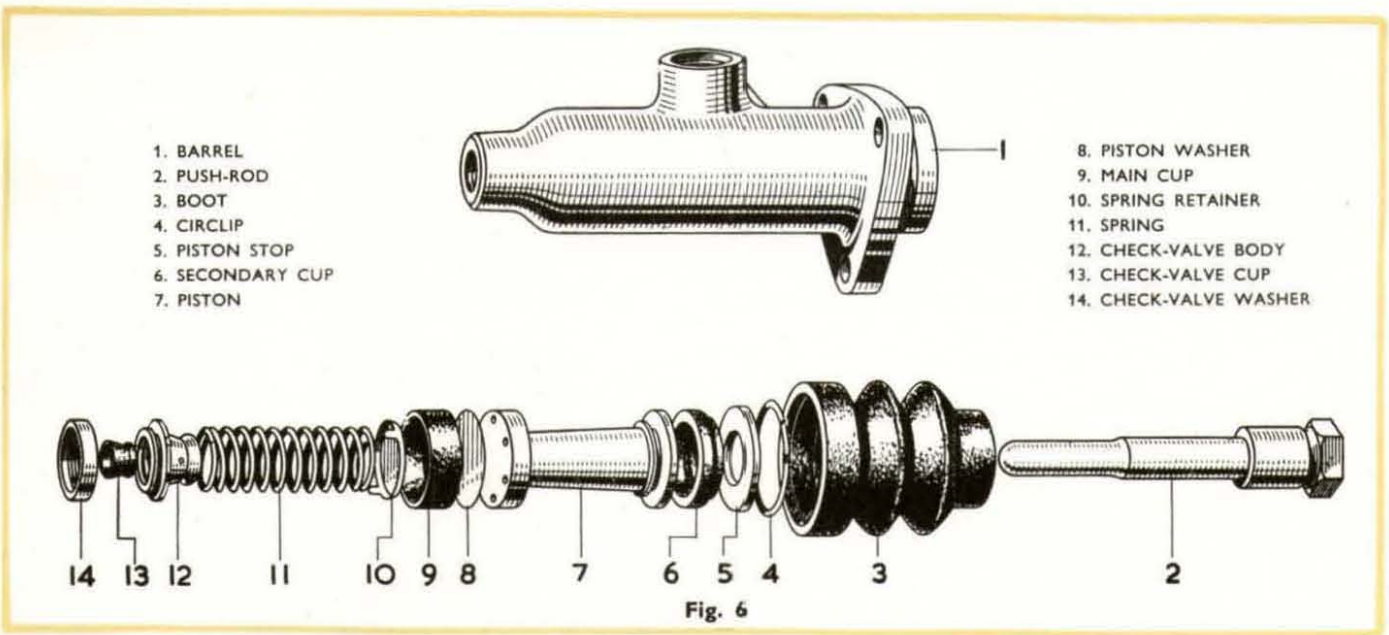

Fig. 6
The type of master cylinder used varies according to the vehicle on which it is fitted; there are three main types, two of which (shown on Figs. 8 & 9) incorporate tanks to hold the reserve of brake fluid whilst the third (shown on Fig. 6) is fed from a separate tank. All three types have similar internal parts and function in an identical manner. Some vehicles are fitted with a tandem
Description (Refer to Fig. 6).
Dismantling (Refer to Fig. 6)
Assembling (Refer to Fig. 6)
- (2) If, with the type of cylinder shown on Fig. 6, the push-rod was previously removed from the brake